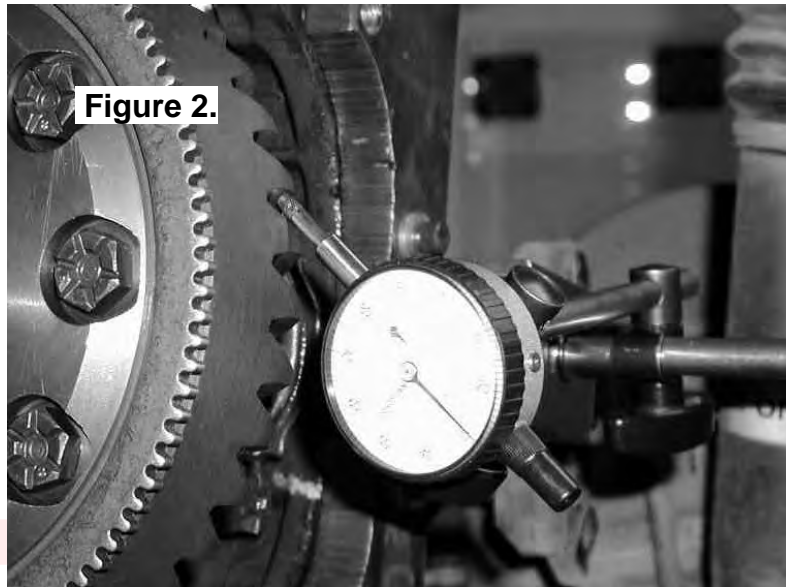

Figure 2.
- Set a depth indicator on one of the ring gear teeth as in Figure 2.